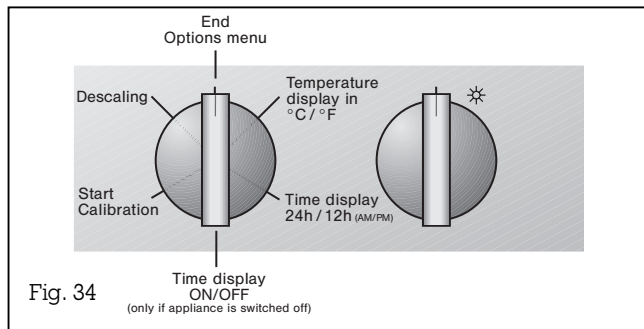

Fig. 34
- Turn the “Moisture level” control knob to the “Descaling” position on the right (Fig. 34).